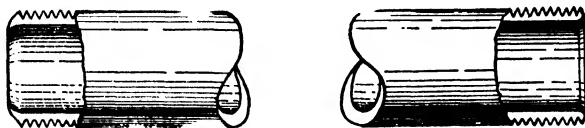

Fig. 4. *Left, Result of Cutting Electrical Conduit with an Ordinary Pipe Cutter. Right, Proper Method of Cutting and Reaming Electrical Conduit*
**Hack Saw.** This is used for cutting conduit in preference to regular wheel pipe cutters used for cutting gas and water pipe. The latter leave a pronounced burr or inward bulge in the conduit, as shown in Fig. 4. This bulge is hard to get rid of and, if left in,